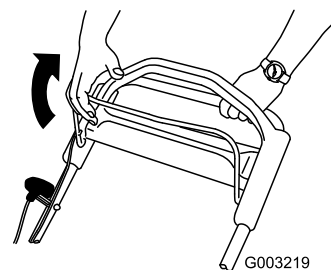

Figure 13
3. Hold the blade control bar against the handle (Figure 13).